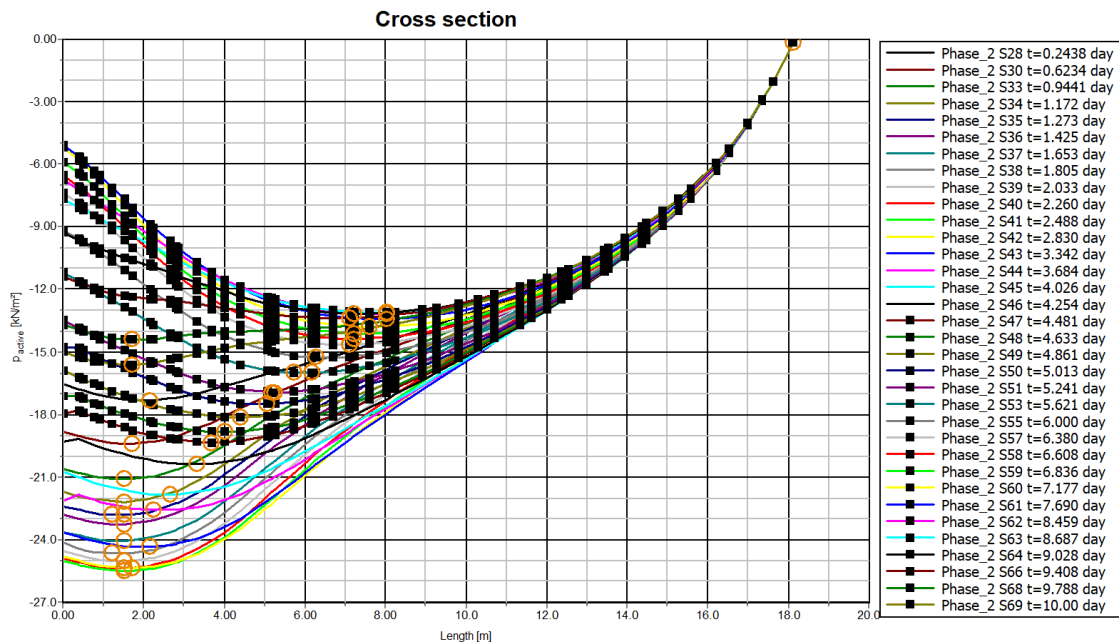

Figure 161: Active pore pressure variation in the cross section in Phase 2
- 5. Do the same for Phase 2. This may take about 30 seconds which is shown in Figure 161 (on page 185).